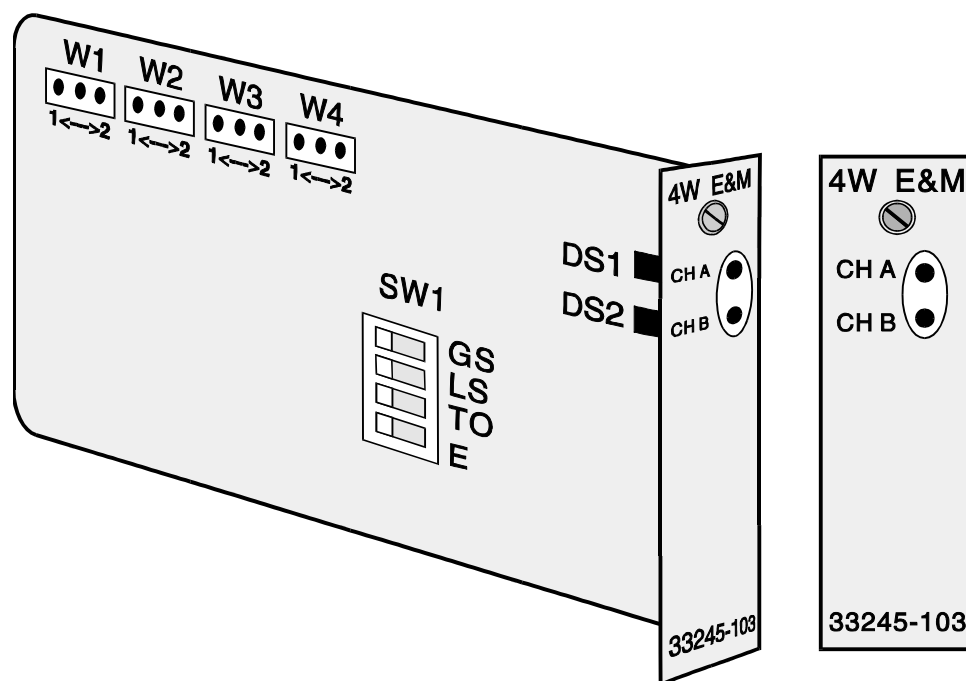

Figure 10. Smart Dual 4-Wire Channel Card, Front and Side Views (models 33245-103, 33245-104, 33245-113)
The signalling jumpers must be set on the 4-Wire E&M models 33245-103/104/113. See Figure 10 for the signalling jumper locations. Table 1 shows the jumper assignment for the various signalling types.
1. Place the jumpers and switches in their appropriate positions. Each jumper has two possible positions. Refer to Figures 10 and 11 for the location of the jumpers on the card. Note that position markers are visible above the jumpers on the printed circuit board. Place switches in their appropriate positions.